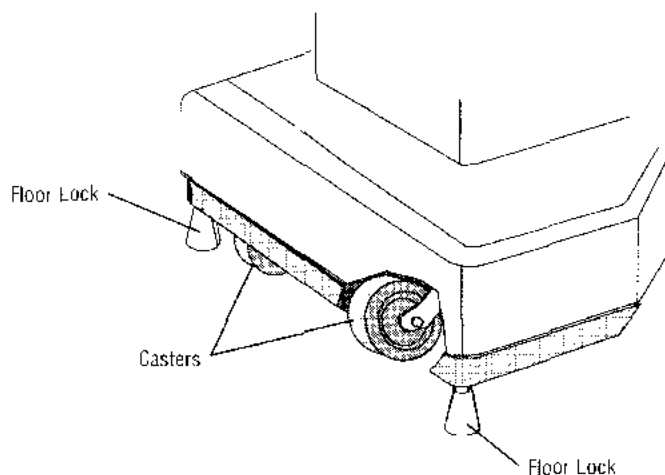

Figure 6-2. Casters and Floor Locks
1. Clean casters and floor locks (see Figure 6-2).